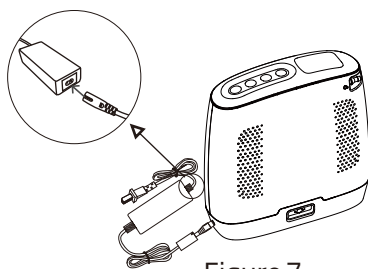

Figure 7
- When operating, connect the power output plug into the Spirit-3 then connect the AC power plug to the power source. As shown in Figure 7.